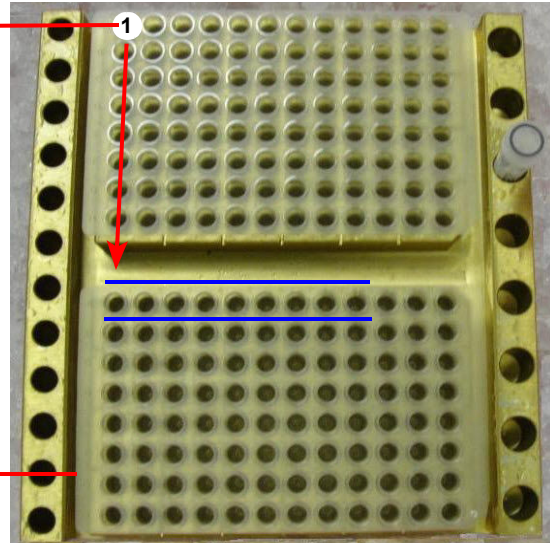

Figure 3 Transfer samples from gDNA plate to DIG-LIG plate.
- Transfer 5 μL of first sample from gDNA stock plate to well A1 of DIG-LIG plate; transfer all samples in same way (Figure 3).